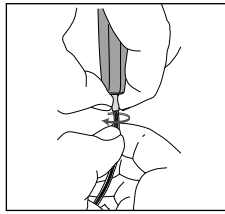

Fig. 7
6. Twist the Teflon outer cable from the Swivel Connector at the bottom of the satellite. Place the Swivel in one hand between your thumb and forefinger and the Teflon outer cable in the other hand between the thumb and forefinger and unscrew (counterclockwise) the outer cable from the Swivel Connector (**see Fig. 7**). Subtract the inner cable outwards through the Swivel.